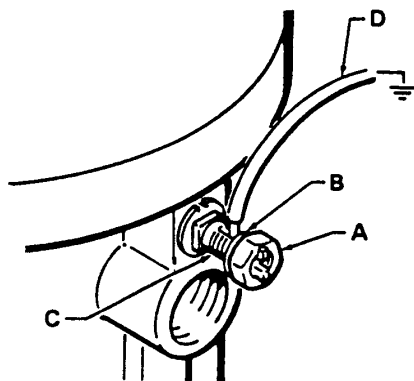

Figure 1
1. *Pump*: use a ground wire and clamp as shown in Figure 1.
To ground the pump, loosen the grounding lug locknut (A) and washer (B). Insert one end of a 12 ga (1.5mm²) minimum ground wire (D) into the slot in lug (C) and tighten locknut securely. See Figure 1. Connect the other end of the wire to a true earth ground. Refer to ground wire and clamp in **ACCESSORIES**.
NOTE: Reference numbers and letters in parentheses in the test refer to the Typical Installation, Figure 1, 2 and the Parts Drawing.